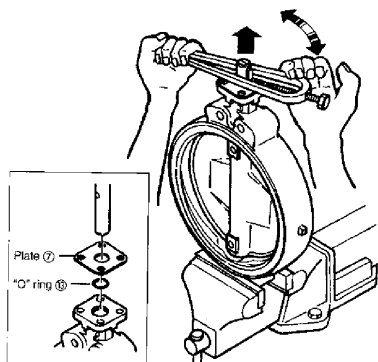

Fig. 34
- 4 After removal of the pins the shaft can be pulled free of the disc & body (Fig.34)